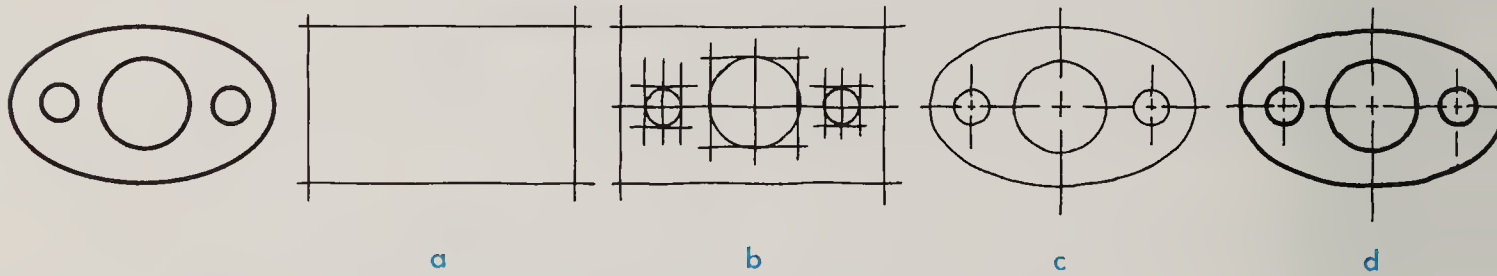

Fig. 4-13. Steps in sketching an object.
1. Sketch a rectangle, square, etc., of the correct proportion, Fig. 4-13(a).
2. Sketch major subdivisions and details of the object, Fig. 4-13(b).
3. Remove unnecessary lines with a soft eraser, Fig. 4-13(c).
4. Darken lines to right weight, Fig. 4-13(d).